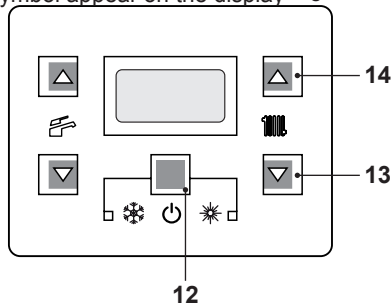

Fig. 2.5
- Press the key 12 for 2 seconds until  symbol appear on the display Fig. 2.5.
The output temperature of C.H. water can be adjusted by pressing keys 13 (reduce) and 14 (increase) (Fig. 2.5) from a minimum of about 25°C to a maximum of about 85°C. Press one of the two keys once to display the "set" value. Press again to access the modification.
However, if the ambient temperature is not comfortable, the flow temperature of the heating system can be adjusted by $\pm 15^\circ\text{C}$ by pressing keys 13 (reduce) and 14 (increase) (Fig. 2.5).